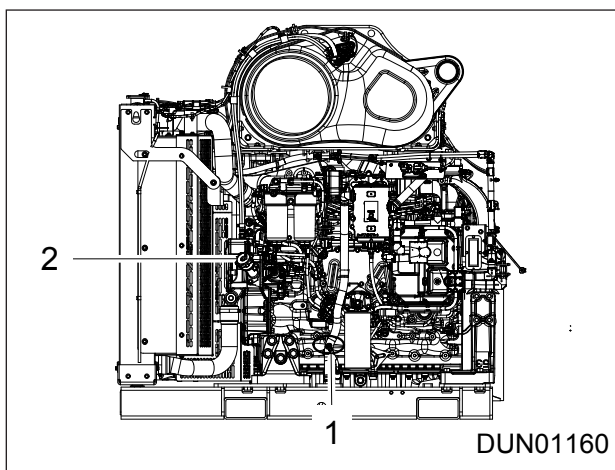

Figure 9.28 - Engine Oil Filler Cap & Dipstick
2. Remove dipstick (Item 1, Ref: Figure 9.28) from the engine and clean. Re-insert the dipstick fully.
3. Remove the dipstick again and observe that the oil level is between the minimum and maximum levels. If the level is below the minimum mark oil has to be added through the filler cap (Item 2, Ref: Figure 9.28) .
2. Stop the engine and open the filler cap (Item 2, Ref: Figure 9.28).
2. Unscrew the fuel filter (Item 1, Ref; Figure 9.28)